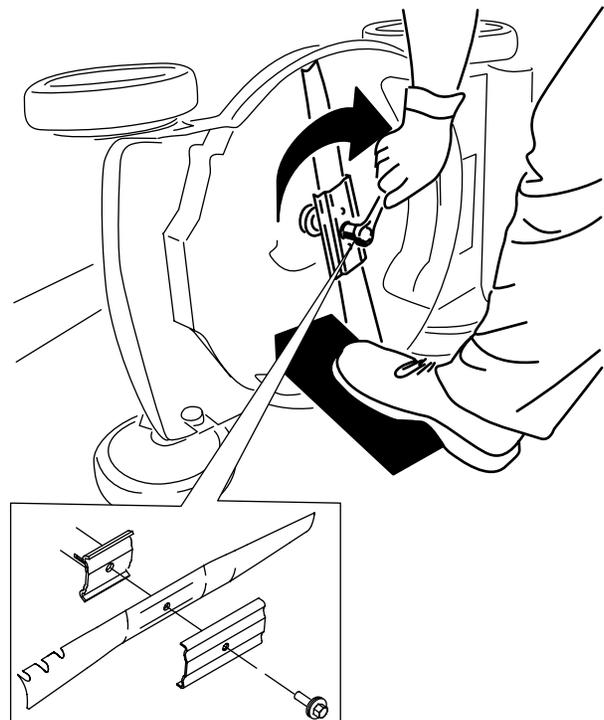

Figure 19
4. Install the new blade, bracket, and blade bolt (Figure 19).